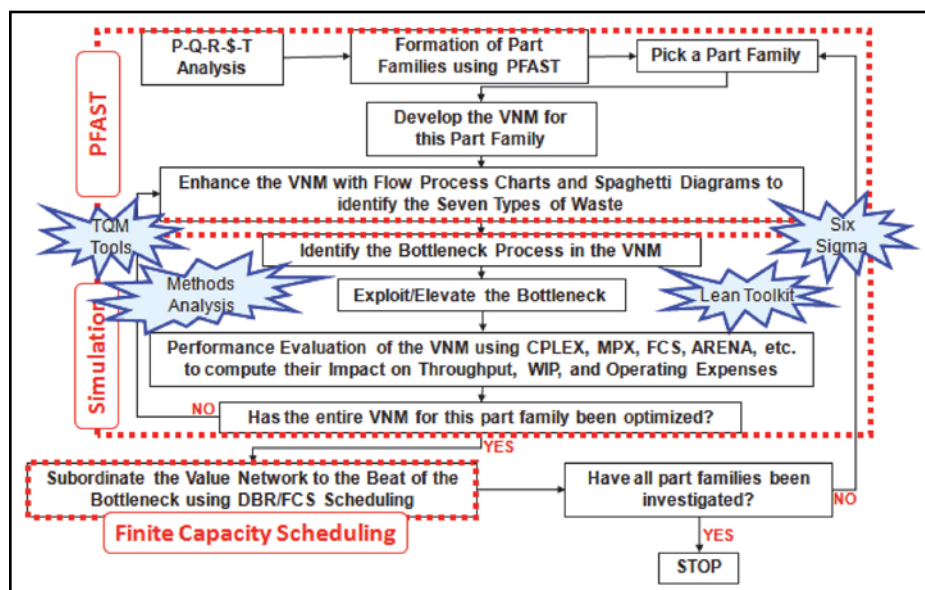

Figure 1 Comprehensive approach for implementing Job Shop Lean.
An earlier column (*Gear Technology*, August 2012) described the process shown in Figure 1 that is followed for implementing Job Shop Lean in a comprehensive manner in any high-mix, low-volume discrete manufacturing facility, such as machine shops, forge shops, fabrication shops, mold shops, etc. At the core of this iterative approach is the expectation that (i) a job shop will utilize production flow analysis and/or group technology to identify the stable part families in its product mix, (ii) will implement a FLEAN (Flexible+Lean) manufacturing cell to produce each part family that has a stable demand and (iii) utilize finite capacity scheduling to schedule each cell on a daily shift-by-shift basis.
In theory, every time that one loop of the process shown in Figure 1 is completed, it will result in the implementation of a stand-alone FLEAN manufacturing cell dedicated to producing a family of parts whose manufacturing requirements are completely satisfied by the cell, except for vendor processes that simply could not be brought in-house. In reality, numerous constraints will either need to be broken (Example: Operators
Typically, after several iterations of the process in Figure 1, a job shop will end up being divided into at least two areas: (1) One area consisting of several
The MP cell in our HCA-TX (HARP) facility is essentially a small job shop. Therefore, effective scheduling would improve its performance and employee utilization. The complexity of scheduling even a small job shop with four or more machines used in various combinations makes its schedule hard to generate, revise and maintain it manually. Ask any IE graduate who has taken a course in scheduling about how much time it took him/her to produce the schedule for a job shop consisting of just three machines producing four parts with different routings. Similarly, in the case of the MP cell, it has different equipment types, and in some cases, two machines of the same type that are unique, yet capable of processing the same parts if the tools and fixtures are available. In order to complete the implementation of the Job Shop Lean process shown in Figure 1, we undertook an exploratory proof-of-concept project to demonstrate